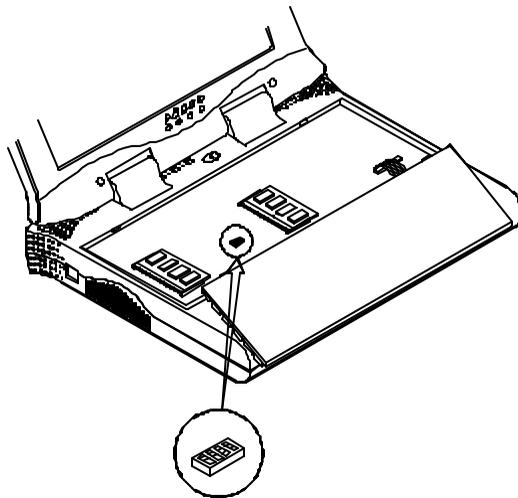

Figure 2-4
3. Carefully lift the keyboard assembly out so that the mainboard is exposed. Employ the 4-pole DIP Switch to set the configuration (Figure 2-4).